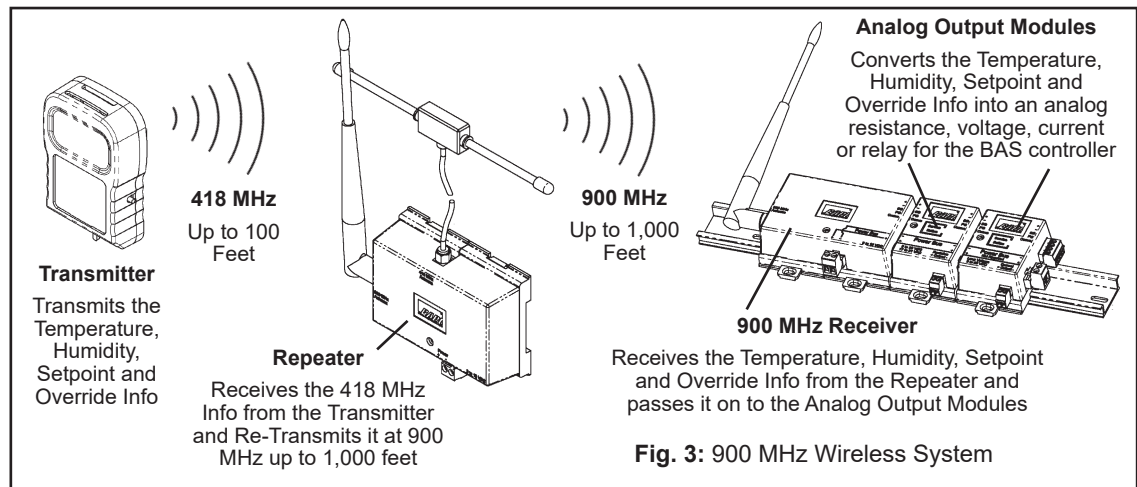

Fig. 3: 900 MHz Wireless System
5. Install provided batteries or pull battery tabs and follow polarity as shown in figure 3 or damage may occur. The unit will work on just one battery however the battery life will be cut in half.